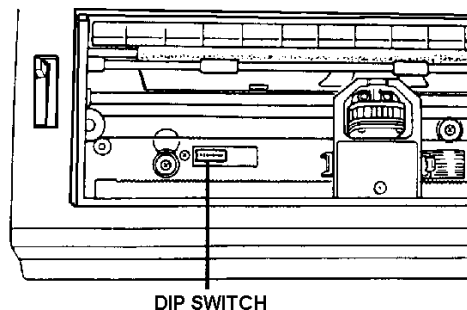

FIGURE 14 - SW3
3.6.5 Figure 14 shows the location of SW3 in front of the print platen.